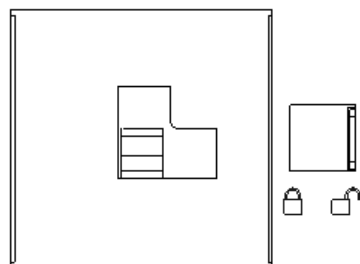

Fig. 10.1
2. Pull the cover plate of the maintenance breaker rightward to open it (Fig. 10.1)